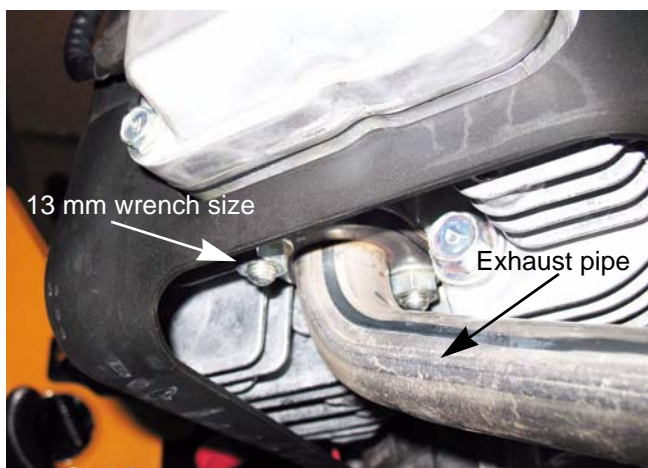

Figure 2.2
3. Remove the two nuts that hold each exhaust pipe to the cylinder head using a 13 mm wrench. See Figure 2.2.